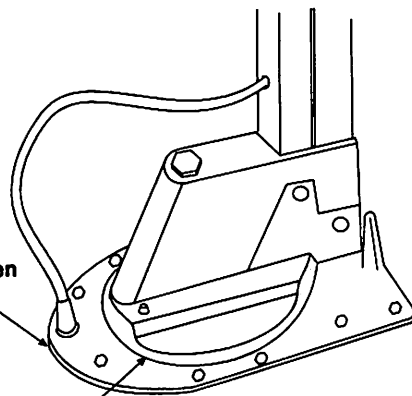

FIGURE 4
STEP 7: Mount antenna and lift on roof in travel position. Apply a liberal amount of approved nonhardening sealing compound on bottom of base plate and roof area around hole. See Figure 4. Secure base plate with screws provided. Apply sealing compound over mounting screws. See Figure 4.